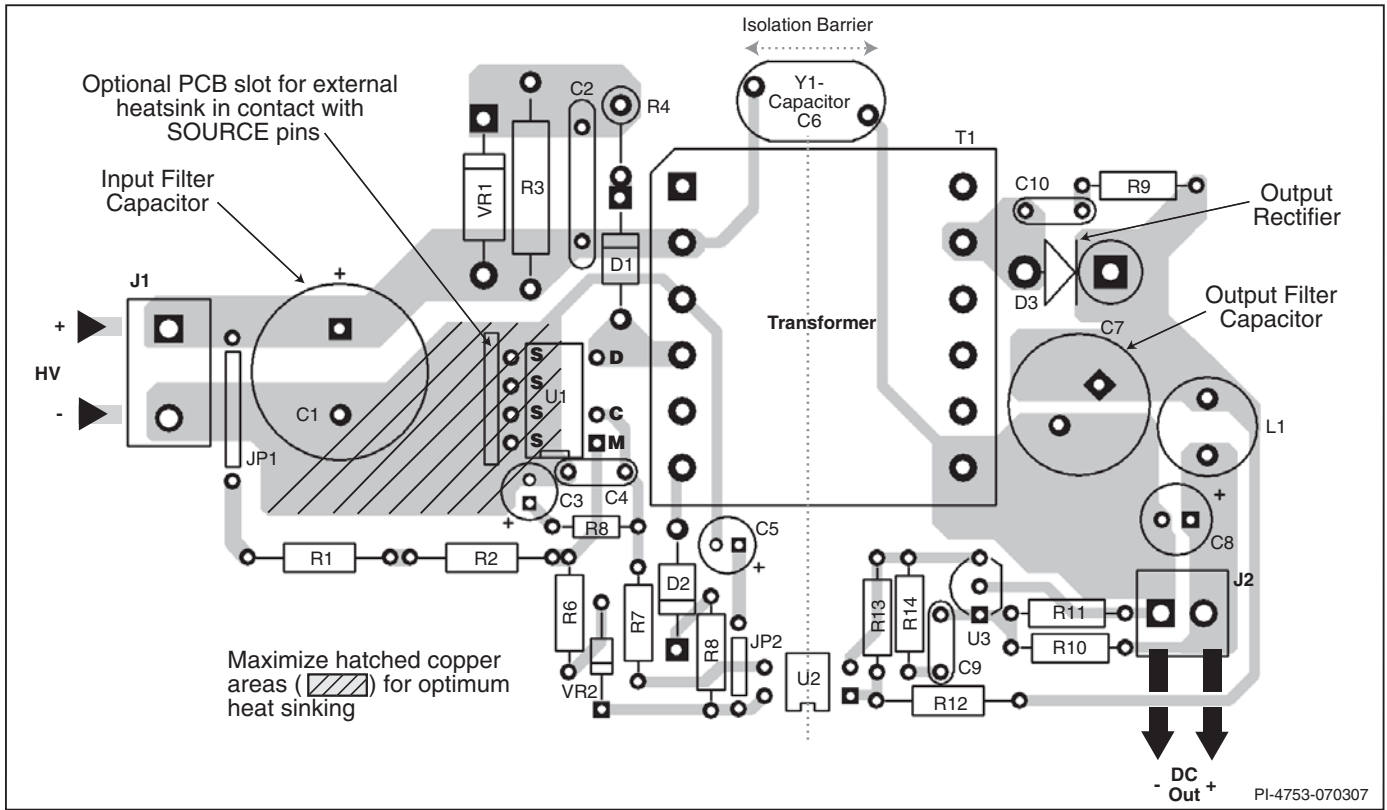

Figure 16. PCB Layout Example Using P-package.
- All SOURCE pin referenced components connected to the MULTI-FUNCTION (M), VOLTAGE MONITOR (V) or EXTERNAL CURRENT LIMIT (X) pins should also be located closely between that pin and the SOURCE pin. The SOURCE connection trace of these components should not be shared by the main MOSFET switching or bias winding return currents. It is very critical that the SOURCE pin switching current is returned to the input capacitor negative terminal through a separate trace that is not shared by the components connected to CONTROL, MULTI-FUNCTION, VOLTAGE-MONITOR or EXTERNAL CURRENT LIMIT pins. This is because the SOURCE pin is also the controller ground reference pin. Any traces to the M, V or X pins should be kept as short as possible and physically away from the DRAIN node, clamp components or any node with high di/dt or dv/dt, to prevent noise coupling.
- In addition to the 47 μ F CONTROL pin capacitor, a high frequency 0.1 μ F bypass capacitor in parallel should be used for local decoupling (C4 in Figures 16, 17 and 18).